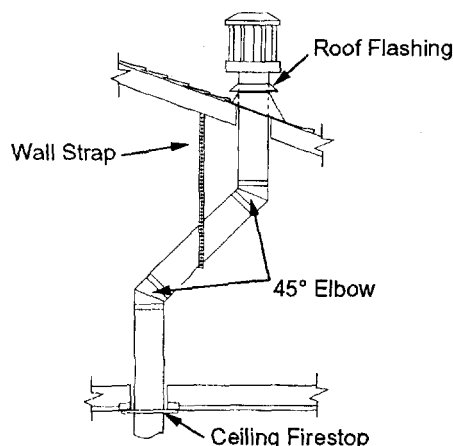

Figure 19- Offset with Wall Strap and 45° Elbows
1. Determine the route your vertical venting will take. If ceiling joists, roof rafters, or other framing will obstruct the venting system, consider an offset (see Figure 19) to avoid cutting load bearing members. *Note:* Pay special attention to these installation instructions for required clearances (air space) to combustibles when passing through ceilings, walls, roofs, enclosures, attic rafters, etc. Do not pack air spaces with insulation. **Also** note maximum vertical rise of the venting system and any maximum horizontal offset limitations.
*Note:* If an offset is needed to avoid obstructions, you must support the vent pipe every 3 feet. Use wall straps for this purpose (see Figure 19). Whenever possible, use 45° elbows instead of 90° elbows. The 45° elbow offers less restriction to the flow of the flue gases and intake air.
5. Place the flashing over the pipe section(s) extending through the roof. Secure the base of the flashing to the roof and framing with roofing nails. Be sure roofing material overlaps the top edge of the flashing as shown in Figure 19. There must be a 1" clearance from the vent pipe to combustible materials.